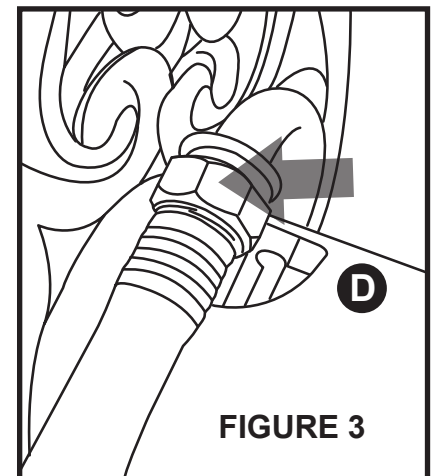

FIGURE 3
3. Attach your garden hose to the hose connection on the hose reel spool (D). **Figure 3**